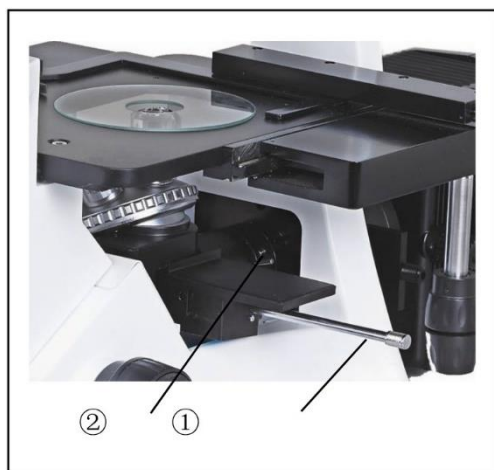

Figure 6
1. Switch the light shutter ① to “●” position to shut off the light path.
5. Pull out the field iris diaphragm lever ② to close the iris diaphragm and push in the aperture iris diaphragm lever ③ to open the iris diaphragm to the large limit.
6. Switch the light shutter ① to “O” position to open the light path.
7. Turn the collector adjusting knob ④ to project the arc image on the centering plate and sharpen it. (A)
8. Revolve the burner adjusting knob ⑤ to move the arc image and the mirror reflected arc image in the symmetrical position. (B)
9. Adjust the mirror focusing knob ⑥ (Figure 6) to sharpen the mirror reflected arc image. (C)
10. Turn the burner adjusting knob ⑤ to overlap the arc image with the mirror reflected arc image. (D)
- Turn the collector adjusting knob ④ to make the field of view as bright as regular as possible.
Centering the mirror reflected image (Figure 6)
Knob control: (Figure 6)